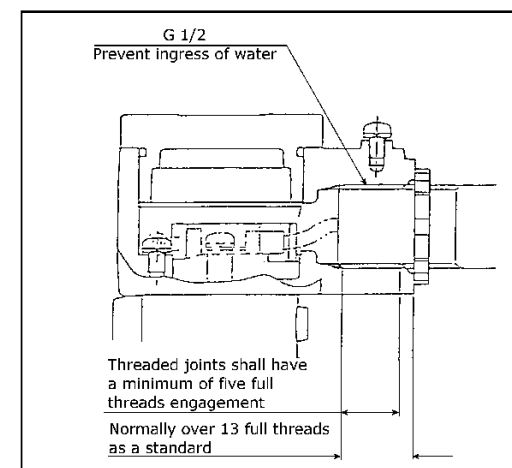
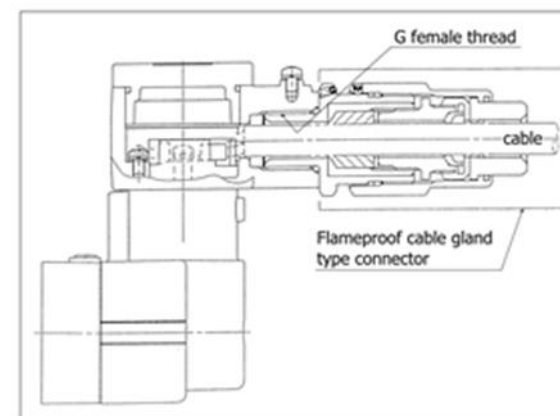

Figure 5
Figure 7
- **Cable entry must be made using metal conduit or cable gland, see Figure 5 and Figure 7.**